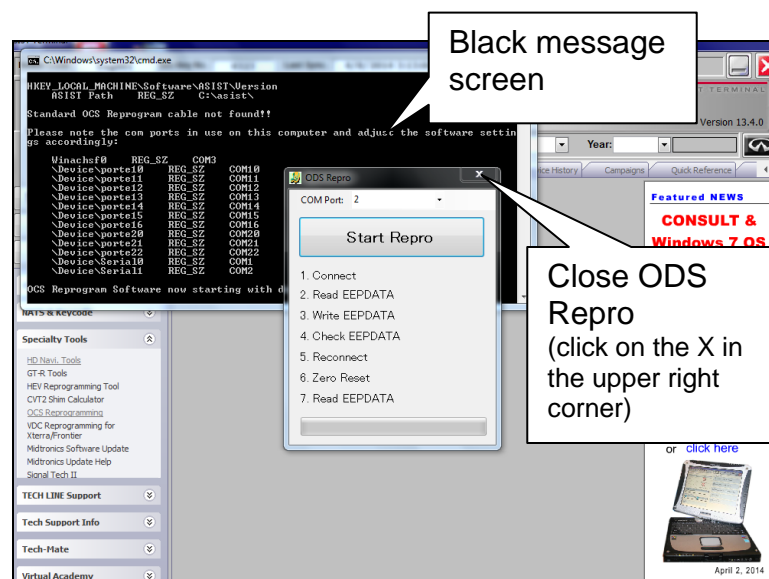

Figure 2
**NOTE:** If you get a black message screen as shown in Figure 2, this indicates that the reprogramming cable is not connected, or the cable driver did not install correctly.